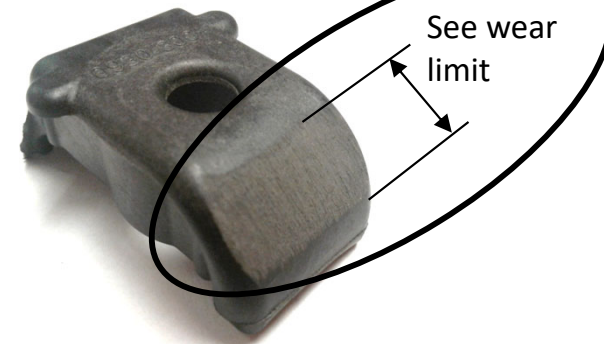

Figure 14
- 1.1 Change the blocks (12) when the wear marks shown in figure 14 exceed the wear limit. Admissible wear limit of the block is less than 14mm.